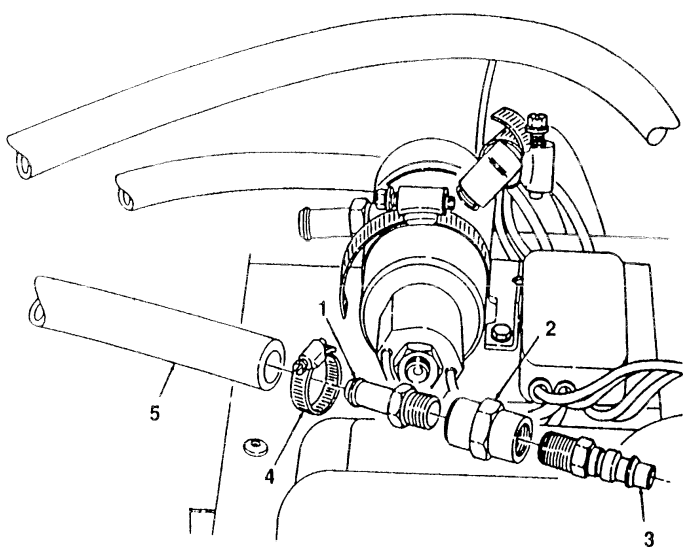

FIGURE 3-17
- B. Assemble NSN 4730-00-142-1958 quick disconnect (3), NSN 4730-00-223-9255 pipe coupling (2), and NSN 4730-01-242-7738 connector (1). (see Figure 3-17)
- D. Install connector (1) to hose (5) and secure with clamp (4). (see figure 3-17)
- I. Loosen clamp (4) and remove connector (1,) from hose (5). (see Figure 3-17)